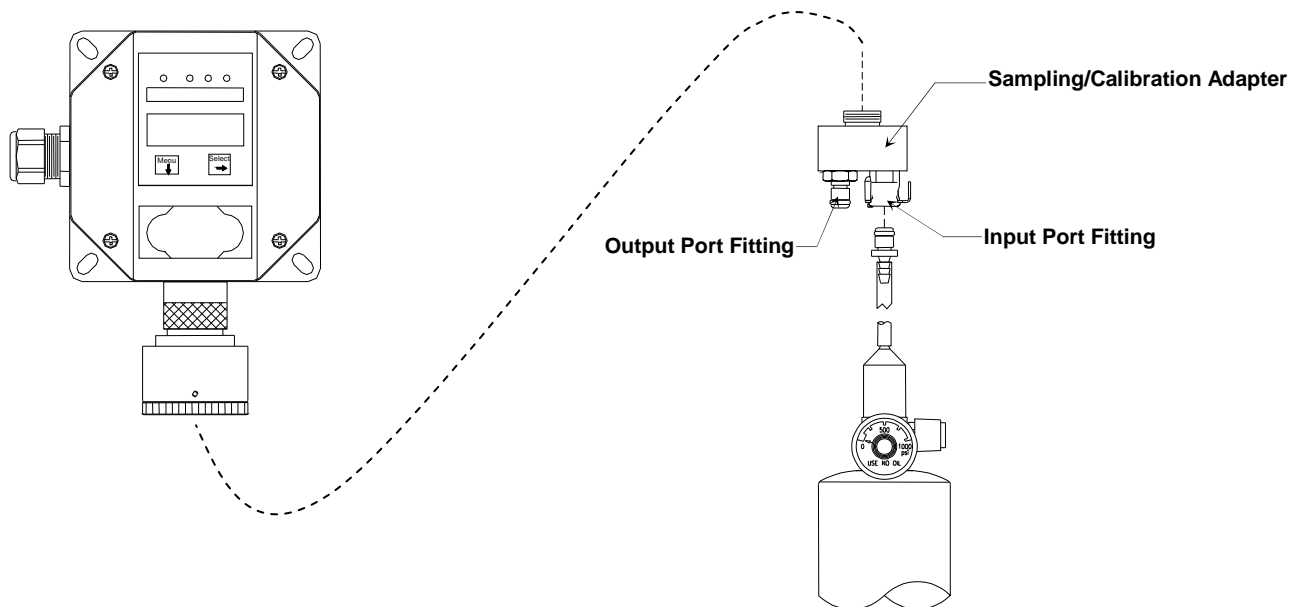

Figure 7: Calibration Adapter
The ZERO function must be performed by exposing the **SE-5175** instrument to clean fresh air. If the air at the sensor is in question, use a cylinder of 20.9% oxygen to provide a clean air reference. See **Figure 7**
3. Attach the associated calibration gas cylinder to the calibration adapter. See **Figure 7** on calibration adapter.